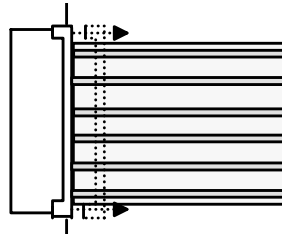

Figure 2. Connector Release
- h. Unplug the flat cables. Note the position of the conductive side for reinstallation. Connectors release the cable by pulling out end tabs as shown by the arrows in Figure 2 below.